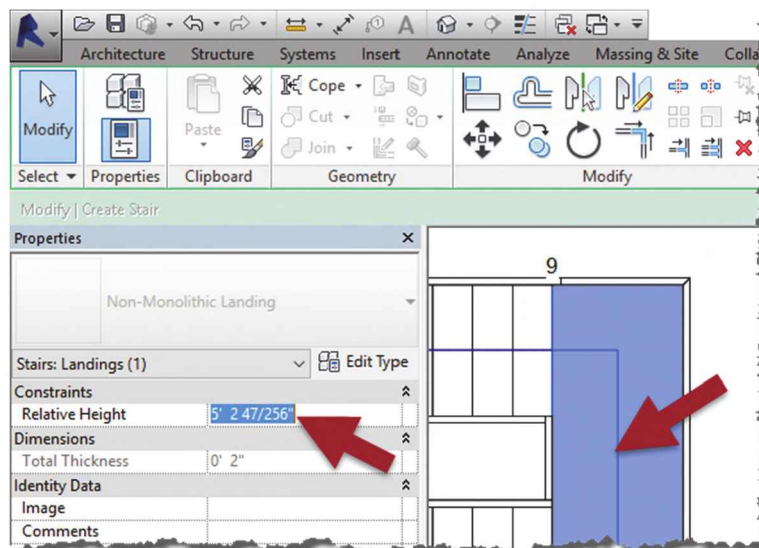

FIGURE 7-3.19 Height listed for selected landing
- While in edit mode, select the landing (Fig. 7-3.19)